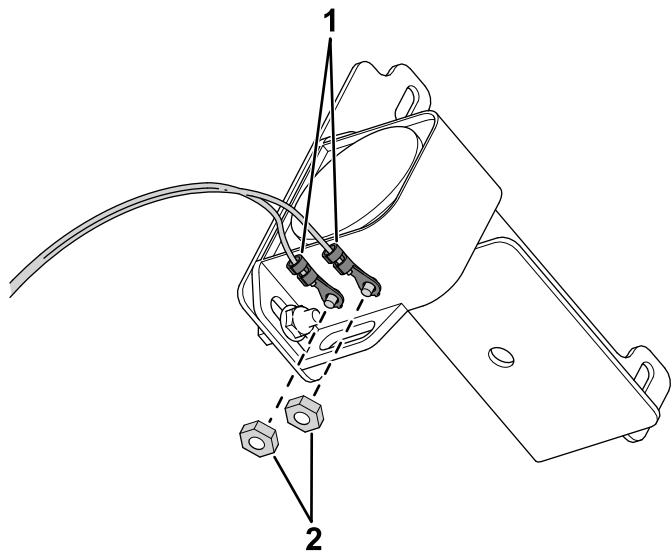

Figure 2
2. Use the existing nuts on the alarm to secure the wire-harness ring terminals to the alarm (Figure 2).